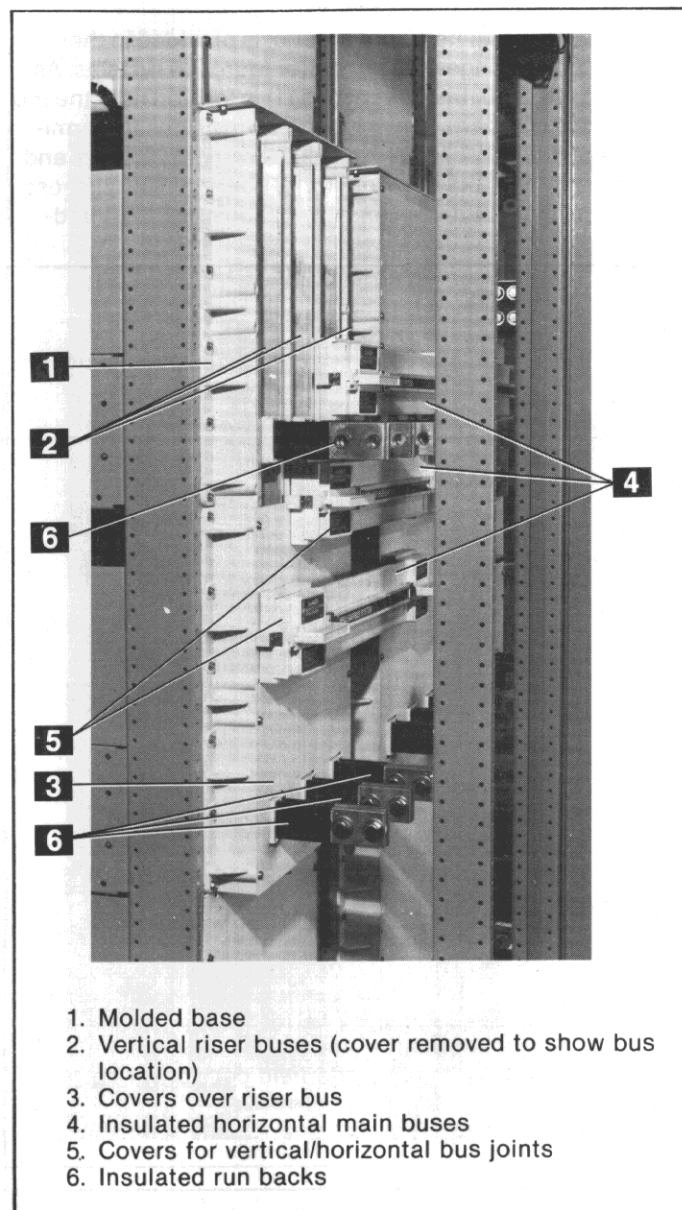

Fig. 3-26. Insul-Bar insulation/isolation bus system
Insulation and isolation of the vertical riser bus bars (2), Fig. 26, is provided by mounting covers (3) over the bus bars as shown in Fig. 3-26. (The cover on the top portion of the vertical bus has been removed for illustrative purposes.)